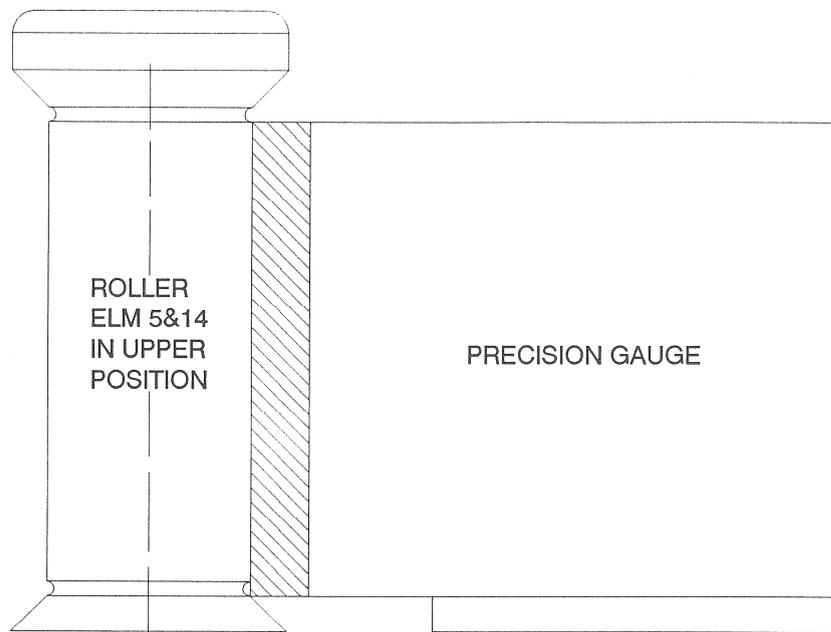

Fig. 46
- The tape lift pin ELM10 is adjusted to a reference height. Neither the screws of the guide blocks nor the set screws [D] on the tape lifter Fig. 46 should be loosened. Readjustment should only be performed at the factory!